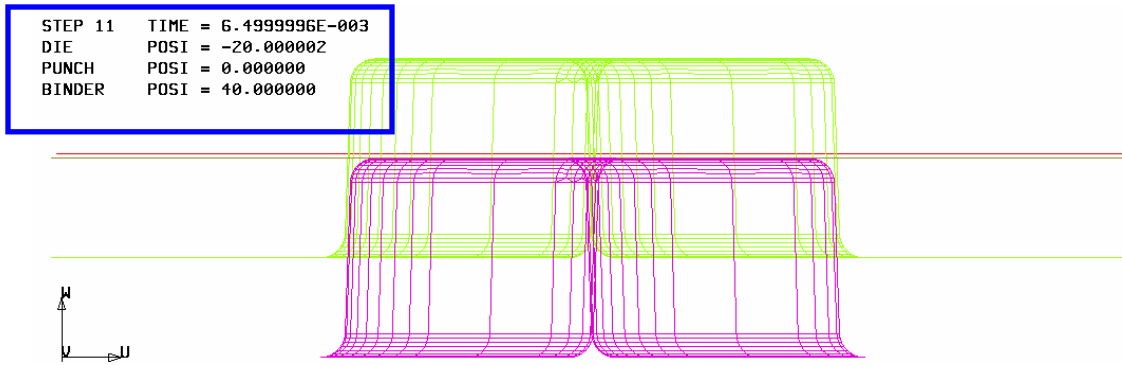

Figure 98: Animating review
4. The time step and displacement of tools are printed on the upper left hand corner of the display area. See Figure 98.